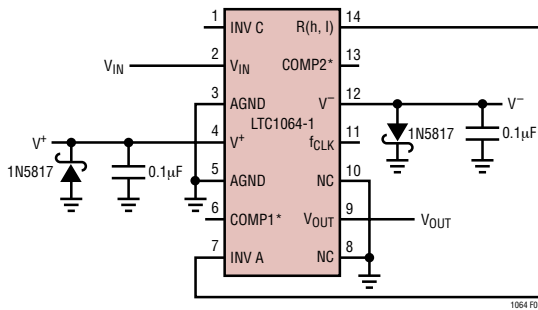

Figure 1. Using Schottky Diodes to Protect the IC from Power Supply Spikes
**V+, V- (Pins 4, 12):** The V+ and V- pins should be bypassed with a 0.1μF capacitor to an adequate analog ground. Low noise, nonswitching power supplies are recommended. To avoid latchup when the power supplies exhibit high turn-on transients, a 1N5817 Schottky diode should be added from the V+ and V- pins to ground (Figure 1).